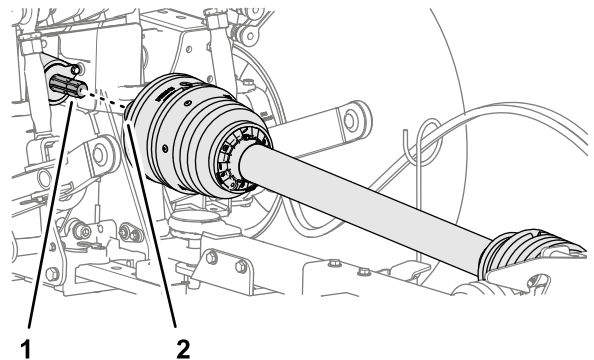

Figure 26
2. Align the quick-connect coupling of the driveshaft with the output shaft of the PTO (Figure 26).